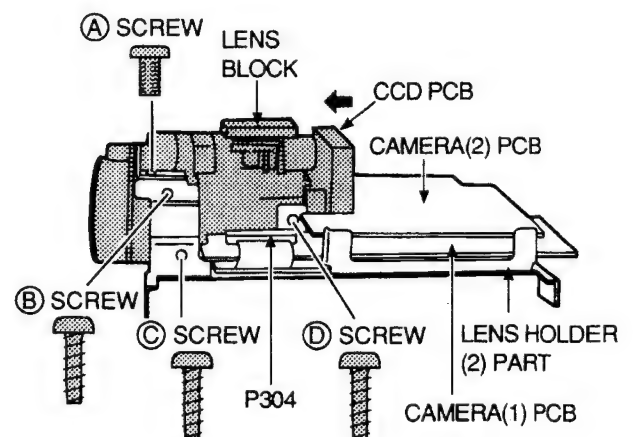

Fig. 3-4
2. Remove the LENS BLOCK retaining ①, ②, ③ and ④ screws as shown in Fig.3-4 and while holding the CAMERA (2) PCB with your right hand, squeeze and pull the CCD PCB shield cover in the direction of the arrow very carefully with your left hand to detach the LENS BLOCK (with CCD PCB attached) from the CAMERA (2) PCB.
3. In case you are removing the CAMERA (1) PCB and CAMERA (2) PCB from the LENS HOLDER (2) part, take care not to scratch any of the chips mounted on the PCB by the chassis's PCB holders (grooves on the chassis).